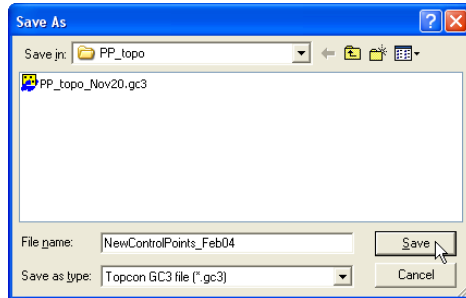

Figure 9-24. Save Control File
2. On the *Save As* dialog box, do one of the following (Figure 9-24):